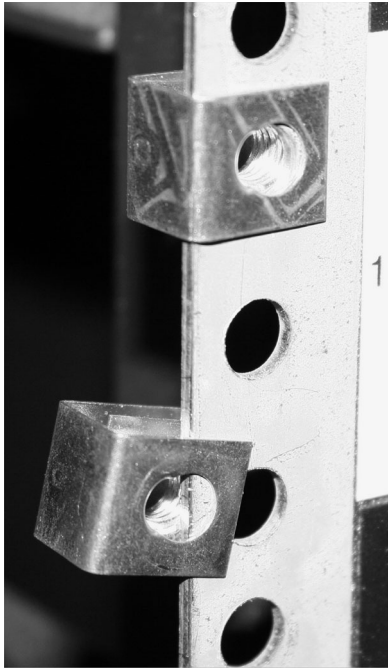

Figure 25. Positioning the clips
2. Position the four “C” clips in the rack’s mounting bar, as shown in Figure 25 on page 34.